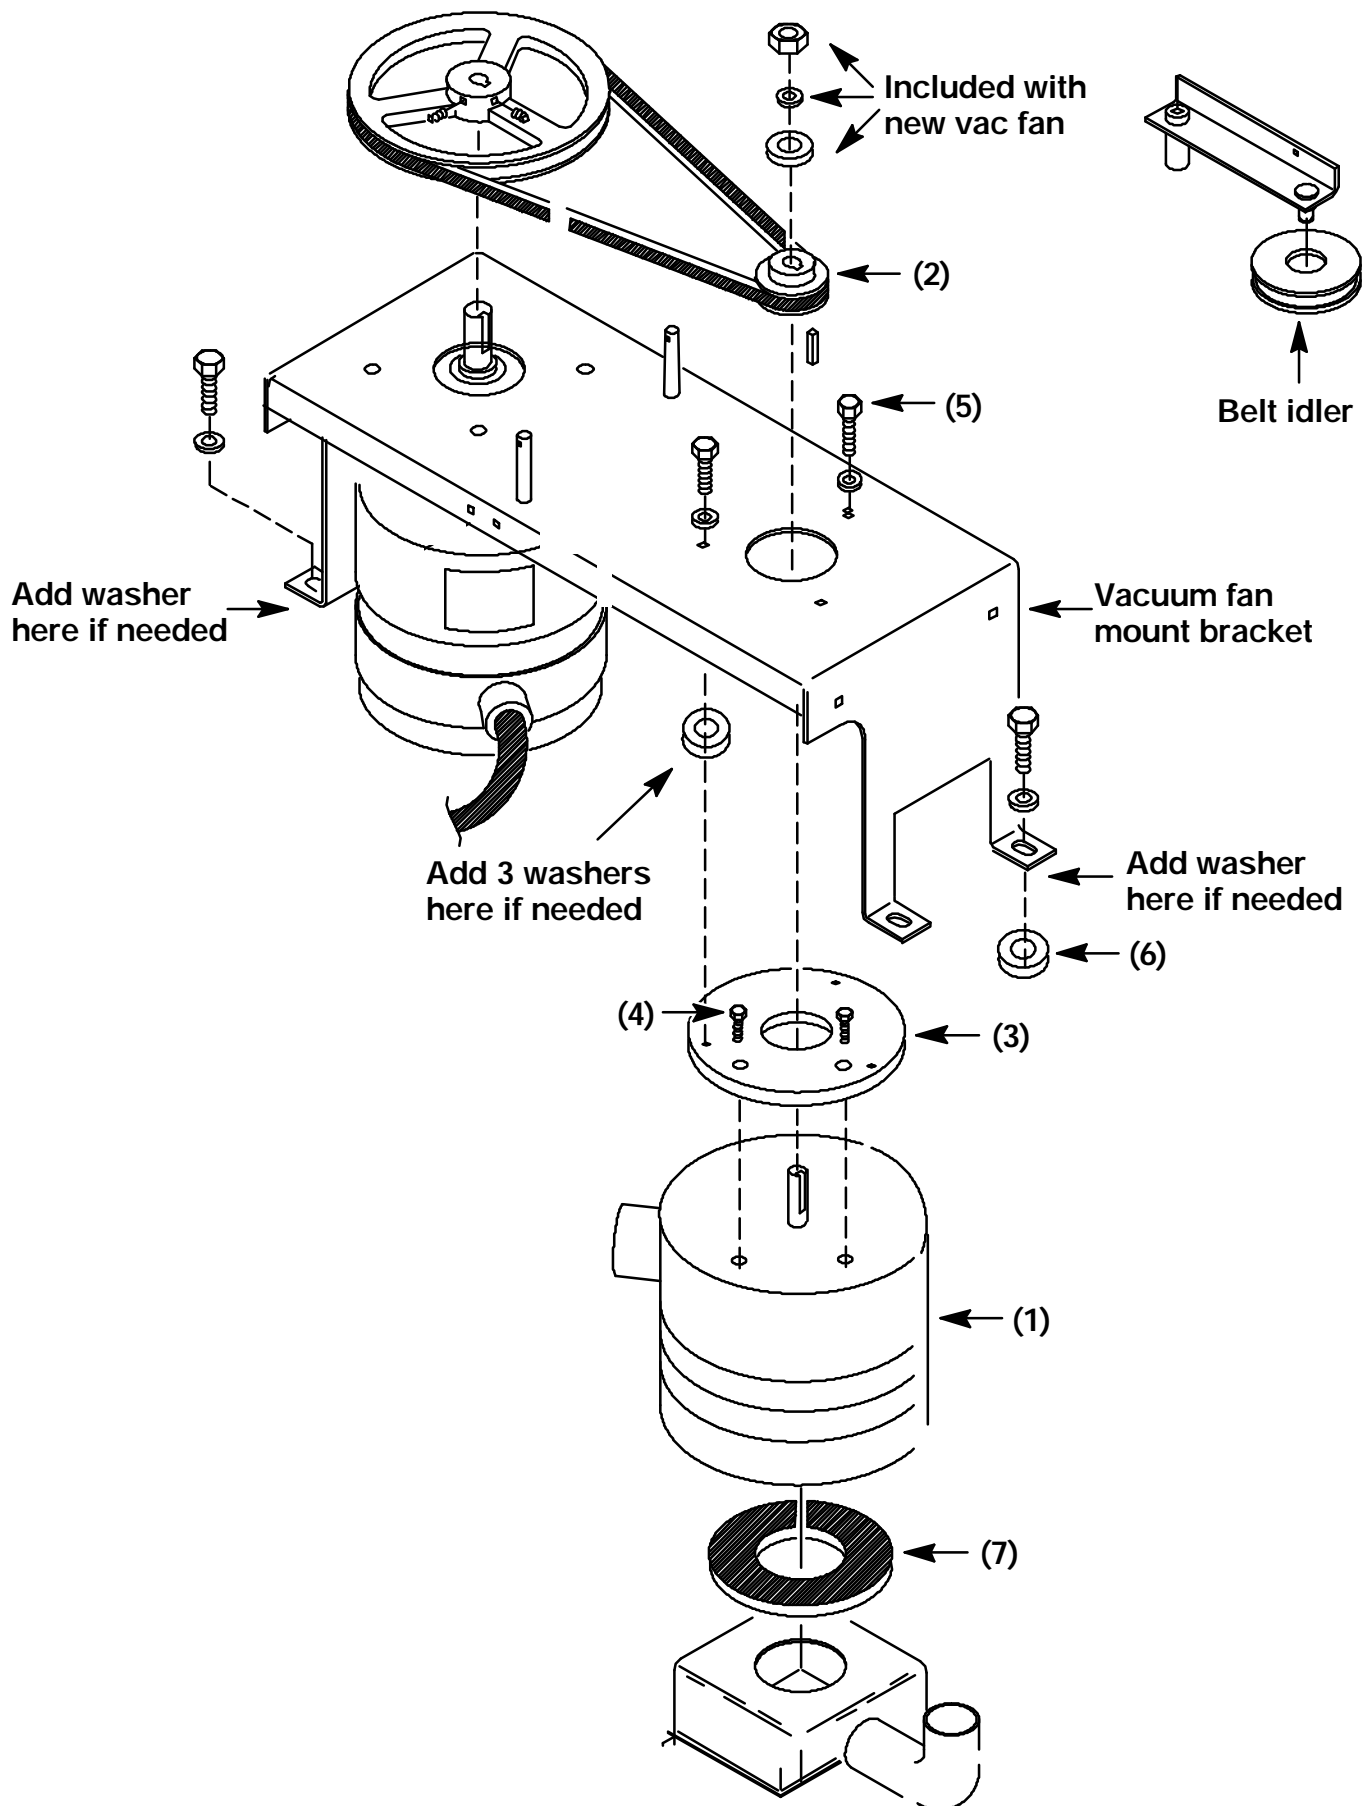

FIG. 1 - New Vacuum Fan Assembly
(Refer to FIG. 1)
1. Remove the four hex screws holding the vacuum fan/motor assembly bracket to the machine. (Refer to FIG. 1)
2. Remove the vacuum fan/motor assembly mount bracket from the machine. (Refer to FIG. 1)
3. Pull on the vacuum fan idler pulley and remove the V-belt from the sheaves. (Refer to FIG. 1)
4. Loosen the set screws holding the vacuum fan sheave to the shaft. Remove the sheave and square key. (Refer to FIG. 1)
5. Remove the three hex screws holding the vacuum fan assembly to the mount bracket. (Refer to FIG. 1)
6. Discard the vacuum fan assembly and sheave. (Refer to FIG. 1)
2. Install the adaptor plate (3) on the top of the vacuum fan assembly (1). Line up the holes and install the four flat screws (4). Tighten to 18 - 24 Nm (15 - 20 ft. lb). (Refer to FIG. 1)
3. Position the new vacuum fan assembly on the mount bracket. Line up the holes in the vacuum fan adaptor plate (3) with the mount holes in the mount bracket. Install the three hex screws (5). Tighten to 18 - 24 Nm (15 - 20 ft. lb). (Refer to FIG. 1)
4. Install the new sheave (2), hex key, flat washer, star washer, and hex nut on the new vacuum fan (1) shaft. Tighten the hex nut tight. (Refer to FIG. 1)
5. Pull back on the idler pulley bracket. Place the V-belt over the new sheave (2). Release the idler bracket. (Refer to FIG. 1)
6. Check the alignment of the V-belt across the new sheave (2), idler sheave, and motor sheave. If the V-belt is not in alignment--loosen the set screws on the motor sheave and move it up or down on the shaft until the V-belt is aligned across all three sheaves. Retighten the set screws on the motor sheave. (Refer to FIG. 1)
7. Position the vacuum fan/motor assembly mount bracket back in the machine. Make sure to align the duct weldment with the vacuum fan seal and vacuum hose. (Refer to FIG. 1)
8. Before the hardware holding the vacuum fan/motor mount bracket is reinstalled--check the space between the mount bracket legs and the machine frame. There should be approximately 1/16 of an inch in order to properly compress the vacuum seal (7). If there is **more** than 1/16 inch--add as many flat washers (6) as needed, under the legs, to fill the space. If there is **less** than 1/16 inch of space--add washers (6) under the mount bracket (between the bracket and fan adaptor plate). (Refer to FIG. 1)
9. Reconnect the vacuum fan motor to the main electrical harness. (Refer to FIG. 1)
10. Reinstall the clevis pin in the top of the lift actuator. (Refer to FIG. 1)